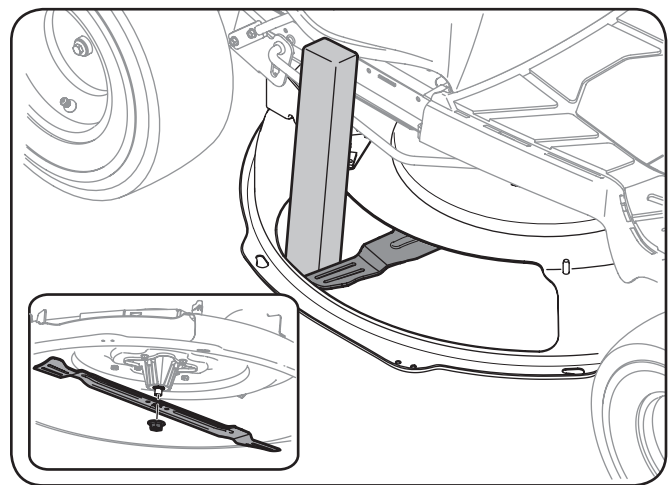

Figure 7-8
2. Using a block of wood or 2 x 4, insert it into the deck opening and rotate the blade around until it wedges the wood between the deck opening and the cutting blade, as shown in Figure 7-8.
3. Remove the hex flange nut that secures the blade to the spindle assembly. See the Inset of Figure 7-8.